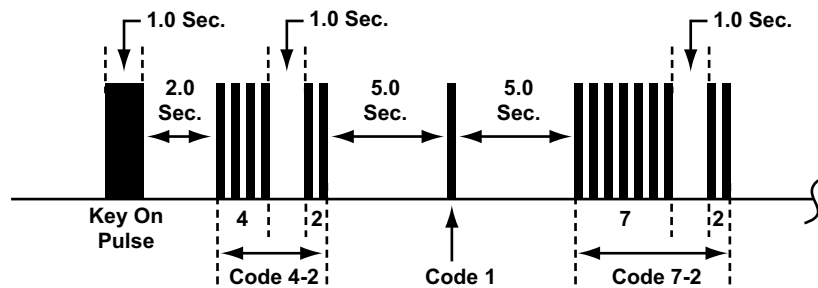

Figure 8-13 Honda ABS Code Type 02
- Type 02, see Figure 8-13 and Table 8-6 on page 62